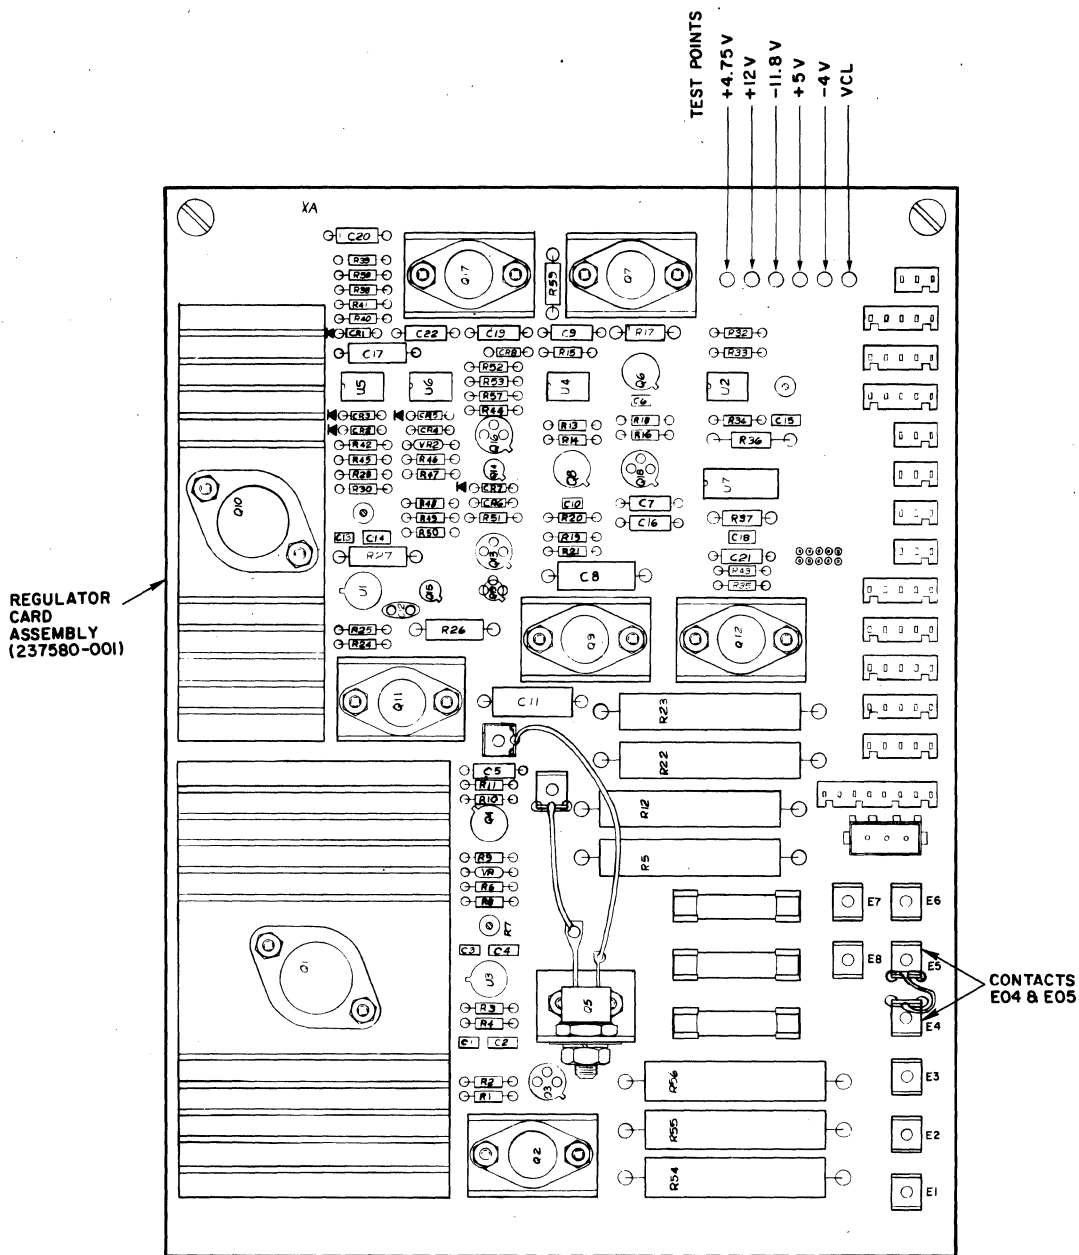

Figure 2-6 PRU9105, PRU9106, PRU9108, and PRU9109
2. Locate card terminals E04 and E05 (see Figure 2-6) and install pushon contact type jumper wire supplied with printer shipment.